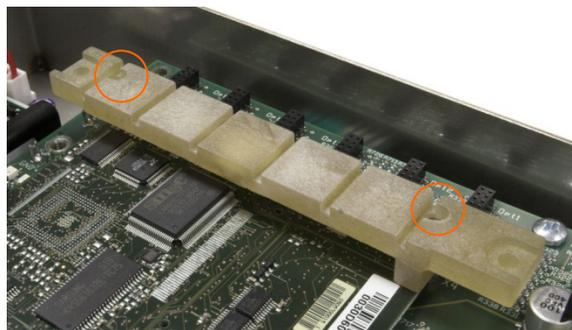

Figure 4-51: Lower Card Guide Screw Locations
9. Remove the two screws attaching the upper card guide, shown in Figure 4-51, and lift the guide from its stand-offs.
1. Loosen and remove the screws holding the upper card guide (Figure 4-51) in place on its stand-offs.
5. Replace the upper card guide, taking care to position the upper edge of the option board/s in the slot/s in the upper guide (see Figure 4-51).